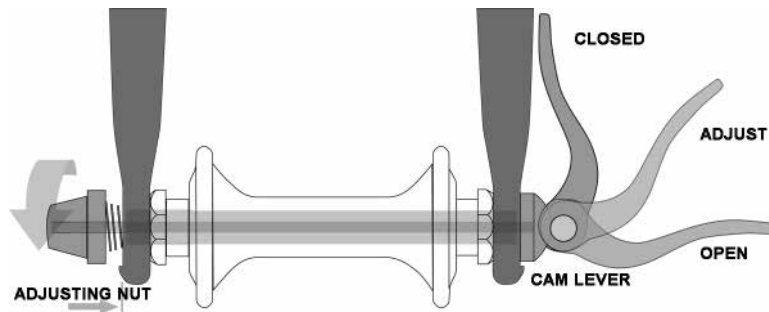
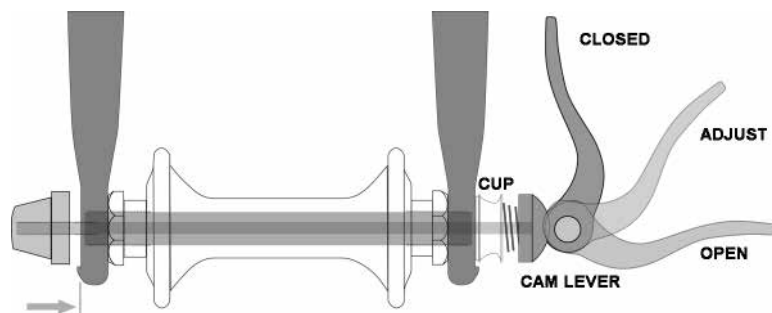

fig. 16
fig. 17
1. A hollow axle with a shaft ("skewer") running through it which has an adjustable tension nut on one end and an over-center cam on the other (fig. 16, 17).
There are currently two types of over-center cam wheel retention mechanisms: the traditional over-center cam (fig. 16) and the cam-and-cup system (fig. 17). Both use an over-center cam action to clamp the bike's wheel in place.
Adjusting the Cam-and-Cup Mechanism (fig. 17)
(1) If your bike has cam action front wheel retention, move the cam lever from the locked or CLOSED position to the OPEN position (fig. 16, 17). If your bike has through bolt or bolt-on front wheel retention, loosen the fastener(s) a few turns counter-clockwise using an appropriate wrench, lock key or the integral lever.
(2) If your front fork has a clip-on type secondary retention device, disengage it. If your front fork has an integral secondary retention device, and a traditional cam action system (fig. 16) loosen the tension adjusting nut enough to allow removing the wheel from the dropouts. If your front wheel uses a cam-and-cup system, (fig. 17) squeeze the cup and cam lever together while removing the wheel. No rotation of any part is necessary with the cam-and-cup system.
(1) If your bike has cam action front wheel retention, move the cam lever so that it curves away from the wheel (fig. 17). This is the OPEN position. If your bike has through bolt or bolt-on front wheel retention, go to the next step.
(2) With the steering fork facing forward, insert the wheel between the fork blades so that the axle seats firmly at the top of the fork dropouts. The cam lever, if there is one, should be on the rider's left side of the bicycle (fig. 16, 17). If your bike has a clip-on type secondary retention device, engage it.
(3) If you have a traditional cam action mechanism: holding the cam lever in the ADJUST position with your right hand, tighten the tension adjusting nut with your left hand until it is finger tight against the fork dropout (fig. 16). If you have a cam-and-cup system: the nut and cup (fig. 17) will have snapped into the recessed area of the fork dropouts and no adjustment should be required.
(4) While pushing the wheel firmly to the top of the slots in the fork dropouts, and at the same time centering the wheel rim in the fork.
(a) With a cam action system, move the cam lever upwards and swing it into the CLOSED position (fig. 16, 17). The lever should now be parallel to the fork blade and curved toward the wheel. To apply enough clamping force, you should have to wrap your fingers around the fork blade for leverage, and the lever should leave a clear imprint in the palm of your hand.
Some bikes are equipped with a cam action seatpost binder. The seatpost cam action binder works exactly like the traditional wheel cam action fastener (6.A). While a cam action binder looks like a long bolt with a lever on one end and a nut on the other, the binder uses an over-center cam action to firmly clamp the seatpost (fig. 16).